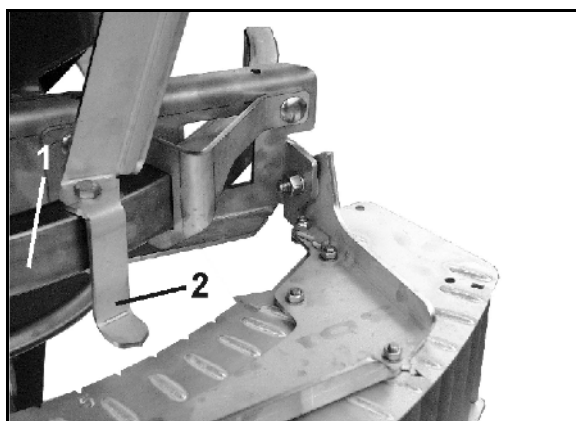

Fig. 79
2. Displace the boundary spread deflector on the guide bracket (Fig. 79/1) so that the pointer (Fig. 79/2) is at the value specified as per the setting chart (Fig. 77).